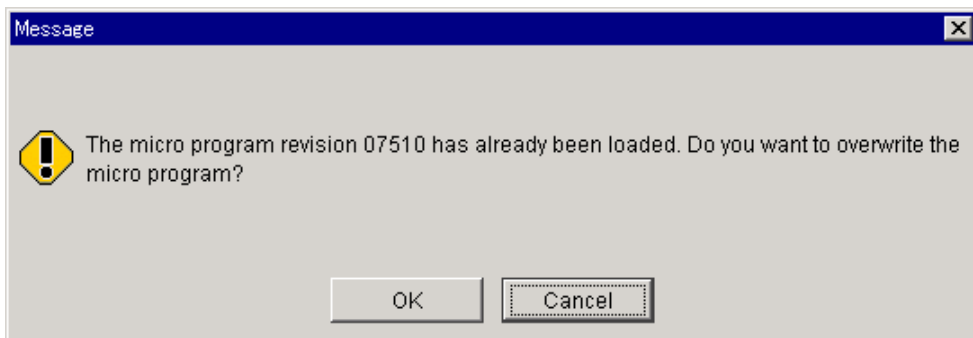
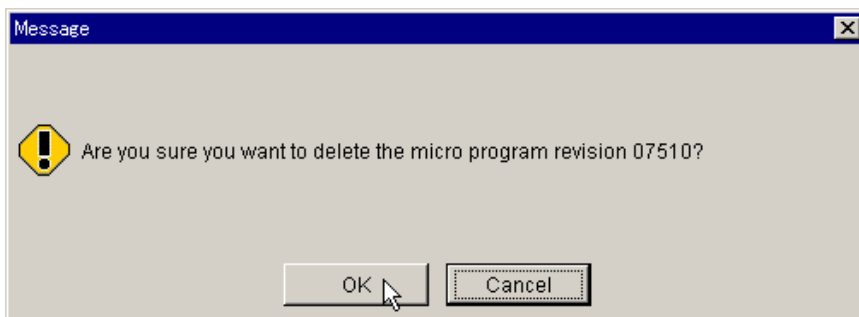

Figure 5.56 Overwrite Microcode Confirmation Message (1)
Figure 5.57 Overwrite Microcode Confirmation Message (2)
7. If that version of the microcode has already been downloaded, a confirmation message displays asking if you want to overwrite the microcode (see Figure 5.56). Click **OK** to overwrite, and then click **OK** on the second confirmation message (see Figure 5.57).